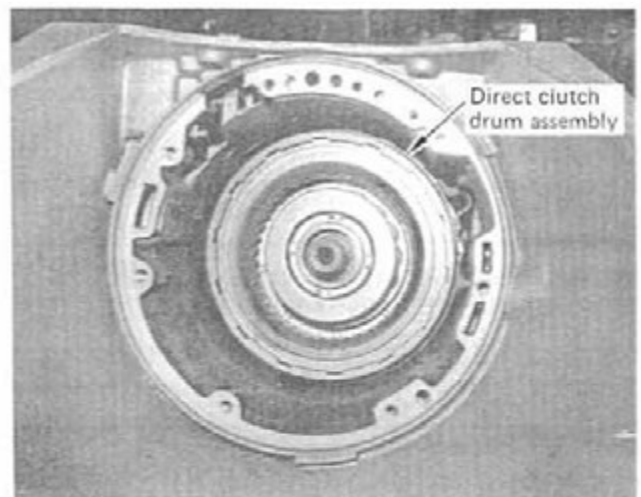
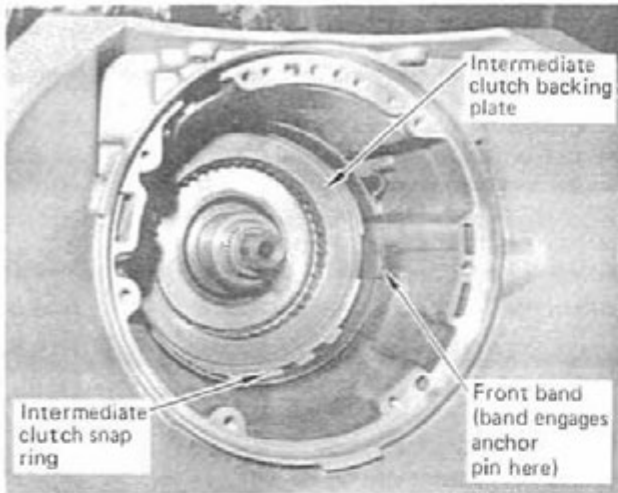

FIGURE 11
FIGURE 12
STEP 14. Remove the direct clutch drum assembly. (See Fig. 11) It will pull straight out. The sun shaft may come out at this time. This is OK. Set the direct clutch drum aside. Remove the front band by disengaging it from the anchor pin and pulling it out. (See Fig. 12) Set the band aside.
STEP 15. Remove the intermediate clutch snap ring. (See Fig. 12) Remove intermediate clutch backing plate and set it aside. Remove and discard three intermediate clutch plates and three steel plates.